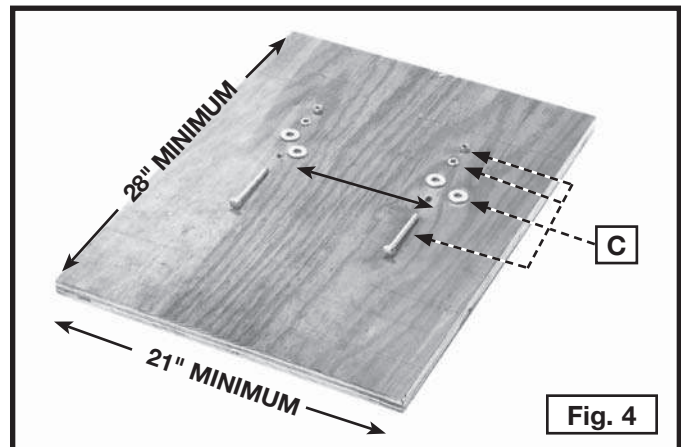

Fig. 4
2. Use a plywood board base with the minimum dimensions as shown in Fig. 4 for mounting the drill press base to a supporting surface.
5. Fasten the drill press base to the mounting board using the carriage bolts, flat washers, lockwashers, and hex nuts (C) Fig. 4 furnished with your drill press. Countersink the holes for the carriage bolt heads and flat washers under the board so that the bolt heads are flush with or below the bottom surface of the board. Use a flat washer, lock washer, and hex nut above the drill press base as shown at (F) Fig. 5.